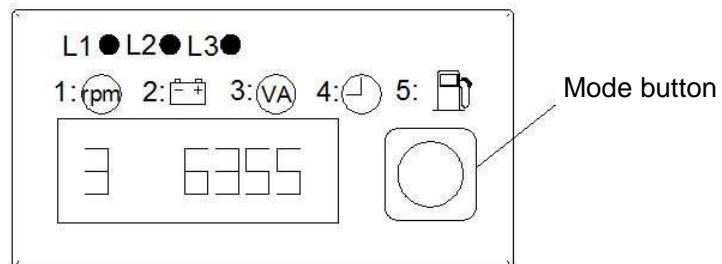

Figure 20
(2) Figure 20 is the display of generator power. When the mode button selects mode 3, the display shows generator power.